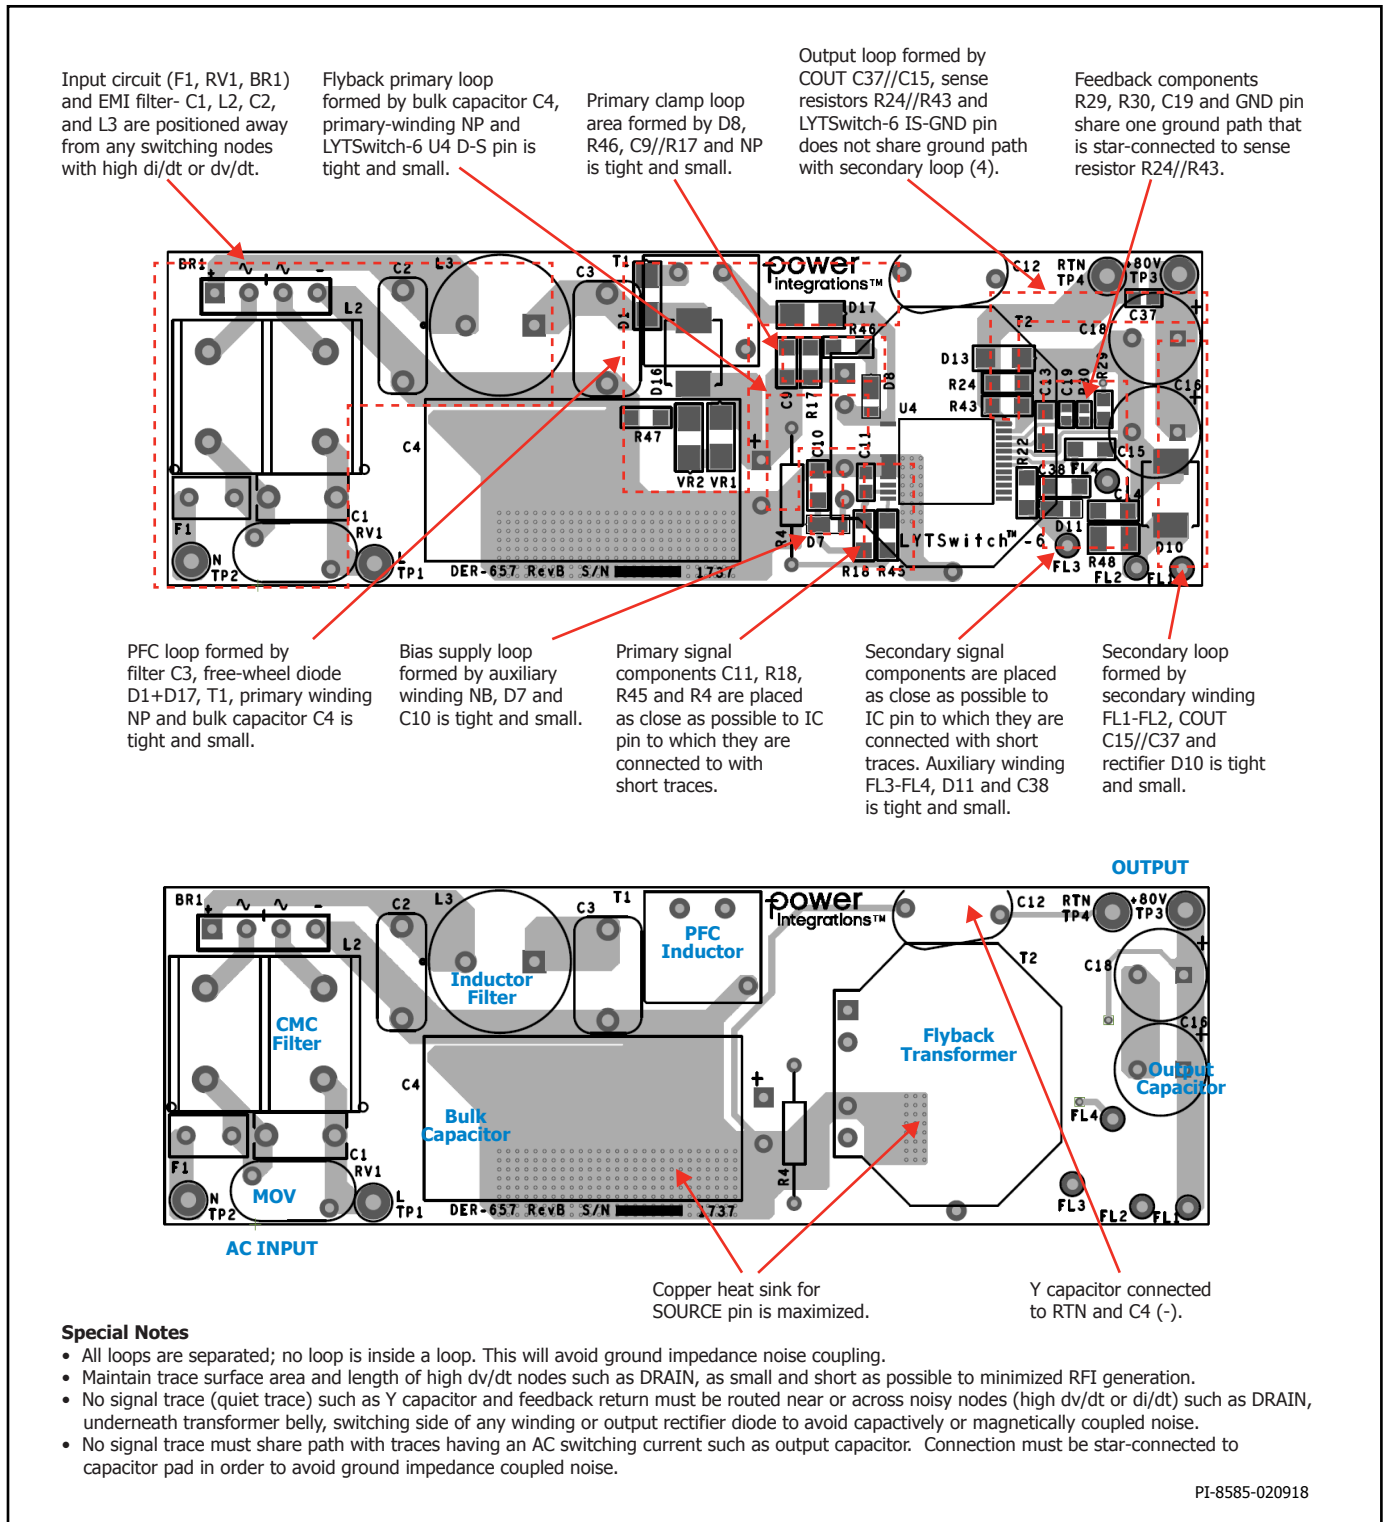

Figure 18. TOP and BOTTOM Sides – Ideal Layout Example Showing Tight Loop Areas for Circuit with High dv/dt and di/dt, Component Placement.
For output constant current (CC) operation, external current sense resistor  $R_{IS}$  should be connected between the ISENSE pin and the SECONDARY GROUND pin of the IC as shown in Figure 18. If constant current (CC) regulation is not required, this pin should be connected to the SECONDARY GROUND pin of the IC.
Use a single-point ground connection from the input filter capacitor to the area of copper connected to the SOURCE pin. See Figure 18.
Loops for circuits with high dv/dt or di/dt should be kept as small as possible. The area of the primary loop – input filter capacitor to transformer primary winding to IC should be kept small. Ideally, no loop should be inside another loop (see Figure 18). This will minimize cross-talk between circuits.
1. Appropriate component placement and small loop areas for the primary and secondary power circuits minimizes radiated and conducted EMI. Care should be taken to achieve a compact loop area. (See Figure 18)
7. A  $\pi$  filter comprising differential inductors and capacitors can be used in the input rectifier circuit to reduce low frequency differential EMI. A ferrite bead (Figure 18) can be added to further improve EMI.